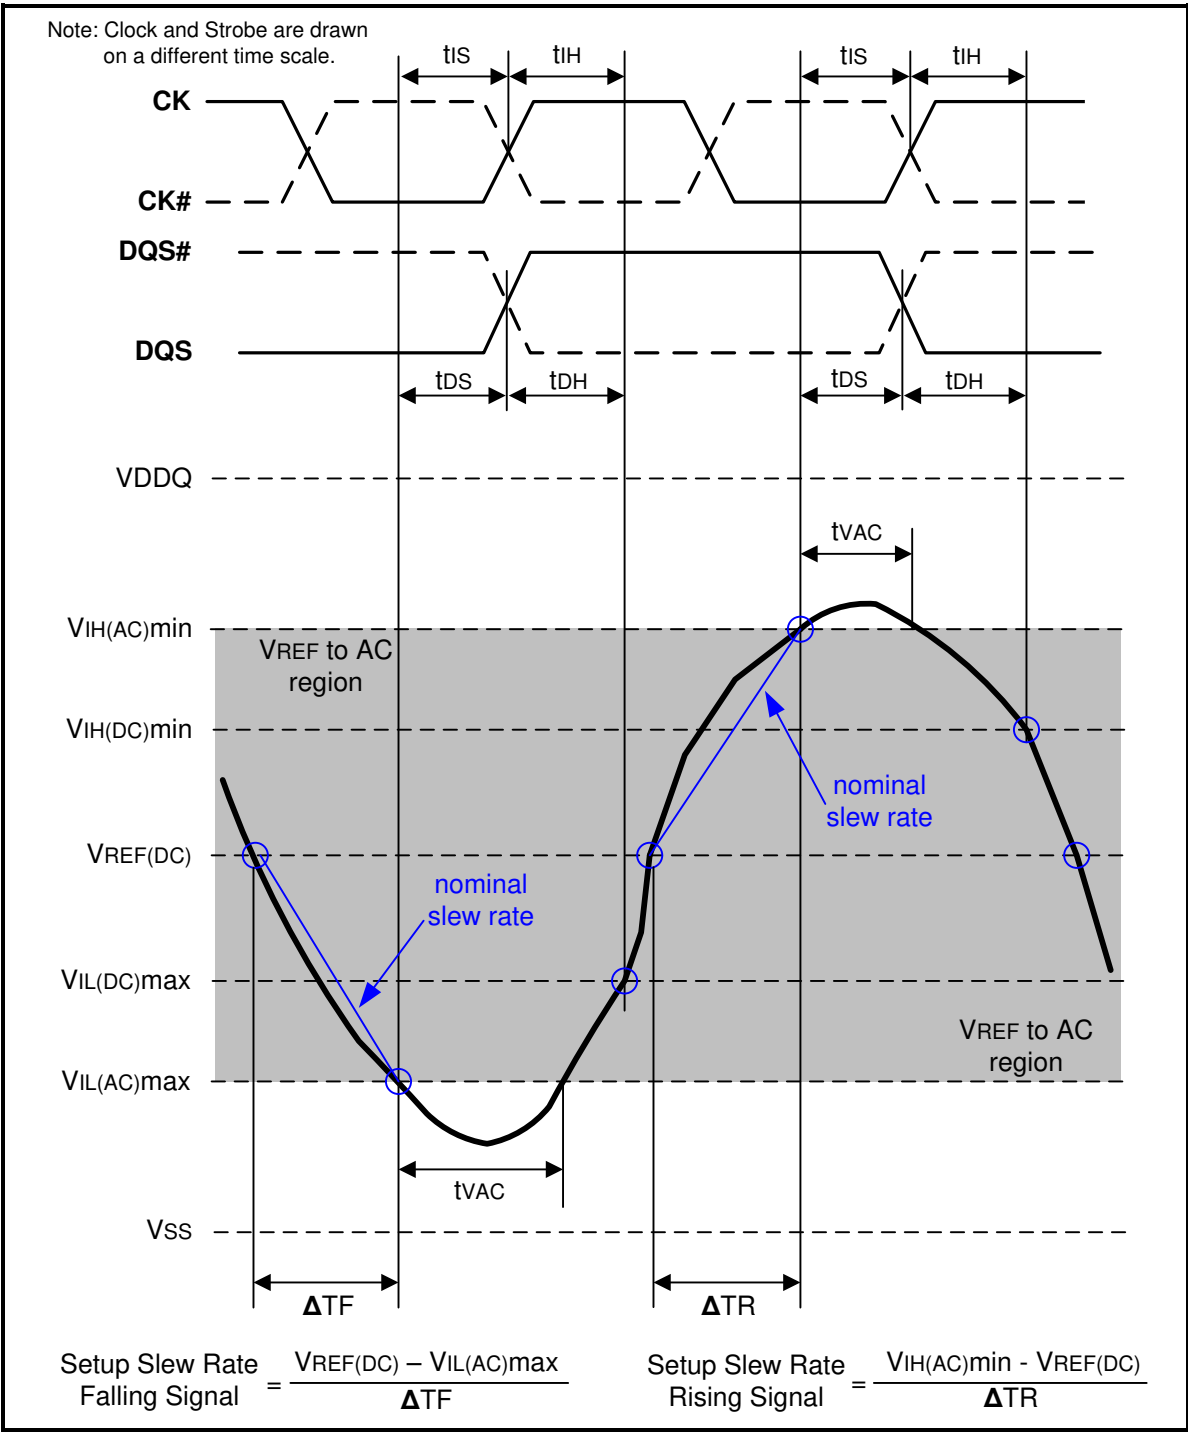
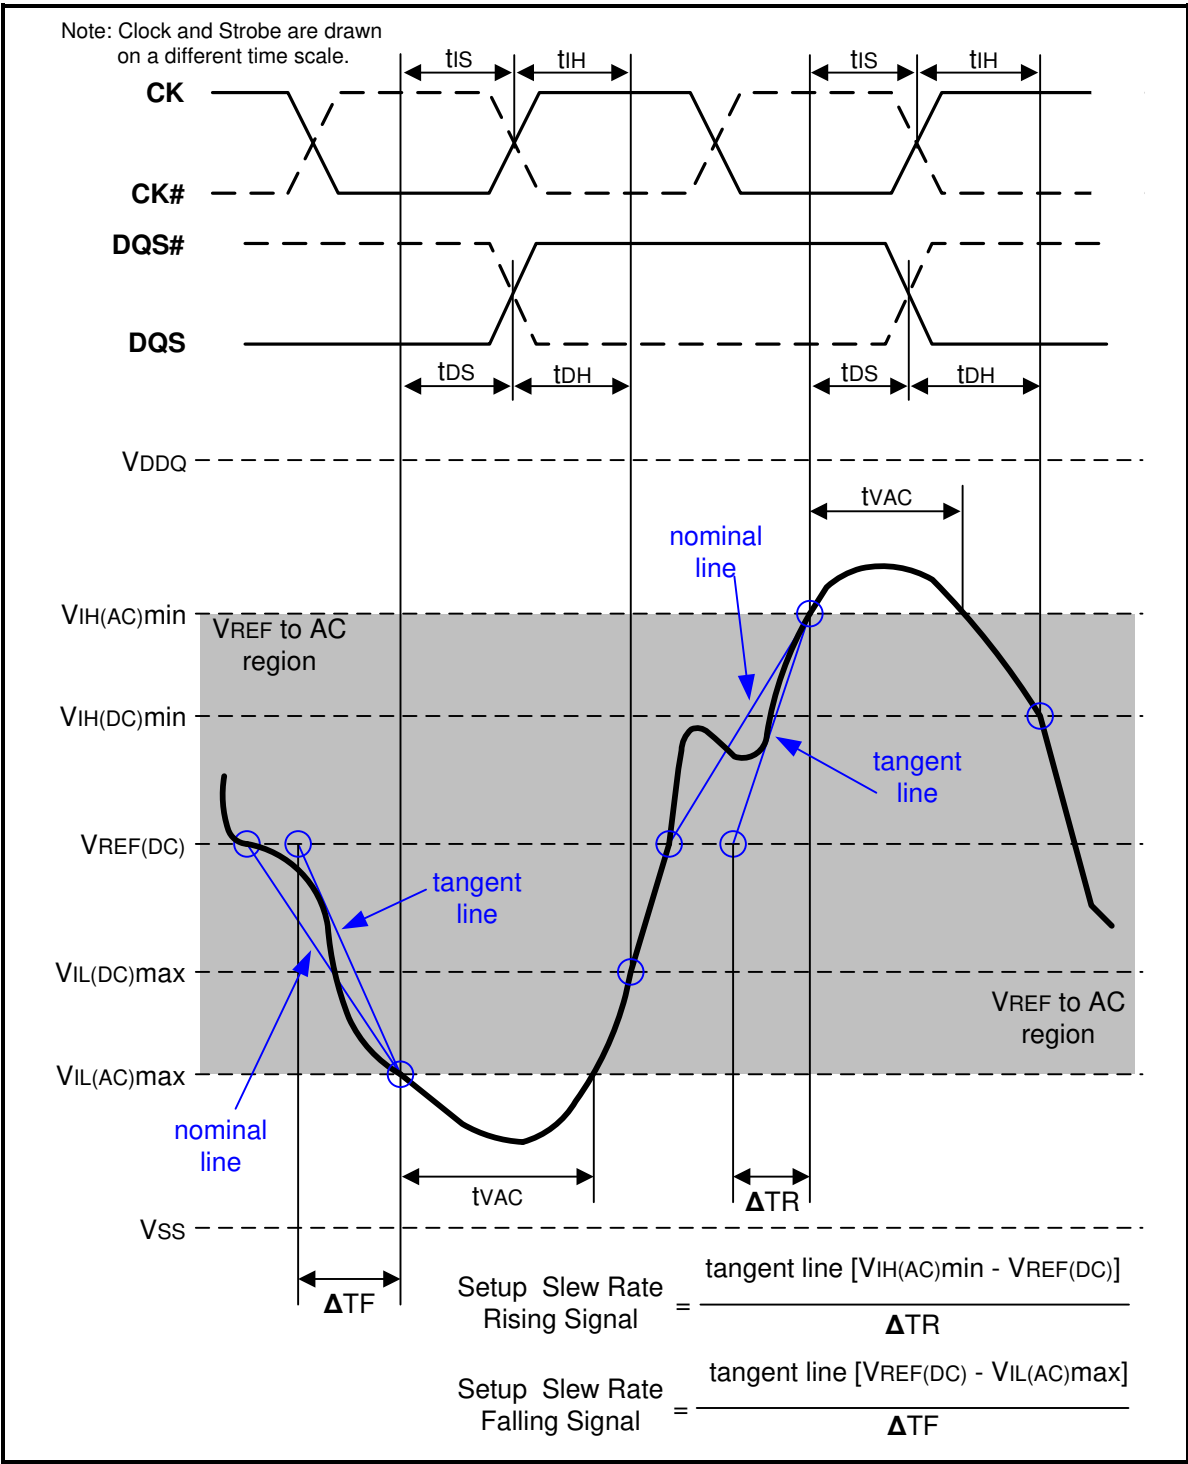

Figure 107 – Illustration of nominal slew rate and tvAC for setup time tDS (for DQ with respect to strobe) and tIS (for ADD/CMD with respect to clock)
Figure 109 – Illustration of tangent line for setup time tds (for DQ with respect to strobe) and tis (for ADD/CMD with respect to clock)
Setup ( $t_{IS}$ ) nominal slew rate for a rising signal is defined as the slew rate between the last crossing of  $V_{REF(DC)}$  and the first crossing of  $V_{IH(AC)min}$ . Setup ( $t_{IS}$ ) nominal slew rate for a falling signal is defined as the slew rate between the last crossing of  $V_{REF(DC)}$  and the first crossing of  $V_{IL(AC)max}$ . If the actual signal is always earlier than the nominal slew rate line between shaded 'VREF(DC) to AC region', use nominal slew rate for derating value (see Figure 107). If the actual signal is later than the nominal slew rate line anywhere between shaded 'VREF(DC) to AC region', the slew rate of a tangent line to the actual signal from the AC level to  $V_{REF(DC)}$  level is used for derating value (see Figure 109).
Setup (tDS) nominal slew rate for a rising signal is defined as the slew rate between the last crossing of VREF(DC) and the first crossing of VIH(AC)min. Setup (tDS) nominal slew rate for a falling signal is defined as the slew rate between the last crossing of VREF(DC) and the first crossing of VIL(AC)max (see Figure 107). If the actual signal is always earlier than the nominal slew rate line between shaded 'VREF(DC) to AC region', use nominal slew rate for derating value. If the actual signal is later than the nominal slew rate line anywhere between shaded 'VREF(DC) to AC region', the slew rate of a tangent line to the actual signal from the AC level to VREF(DC) level is used for derating value (see Figure 109).